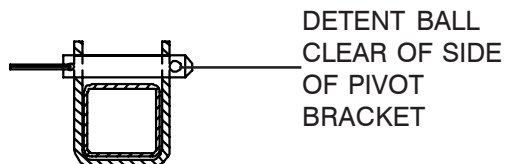

Figure 2-12. Correct Position of Locking Pin
**1. Guardrail Locking Pin W/Lanyard** - To fold the guardrail system down, remove the locking pin at each pivot point and lower each guardrail. To raise the guardrail system, swing up each guardrail and lock in place with the locking pins ensuring that the detent ball of each pin is clear of the side of the pivot brackets. (Figure 2-12.)